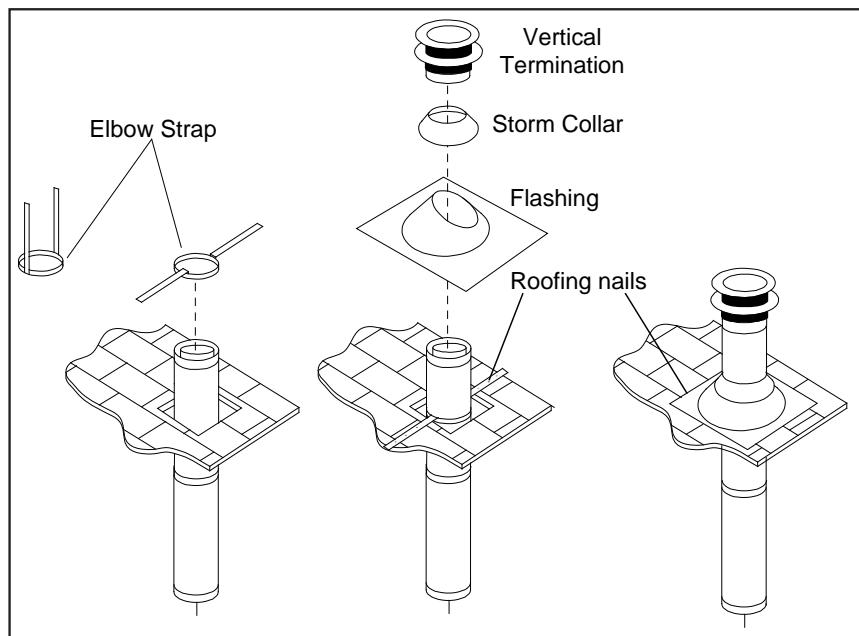
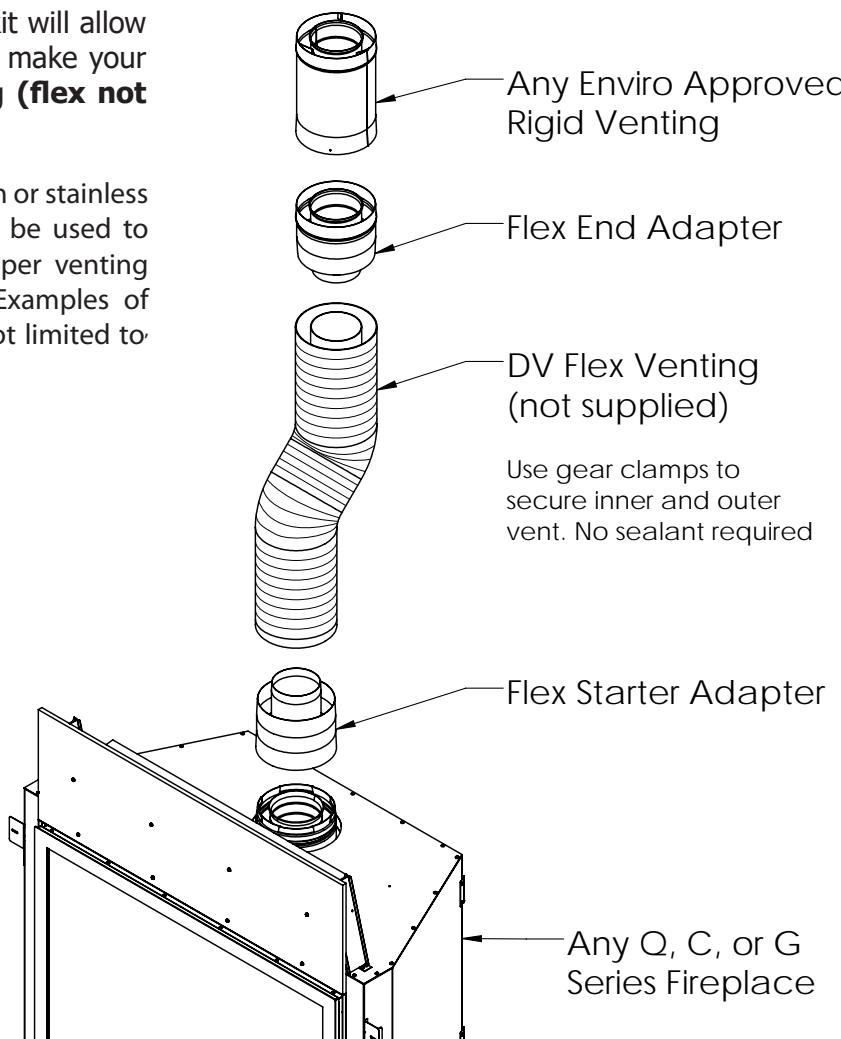

Figure 39. Vertical Vent Termination
Figure 42. Flex Adapter Kit Install
Step 3. To install the Round Support Box/Wall Thimble in a flat ceiling, cut a **10" (25.4 cm)** square hole in the ceiling, centered in the hole drilled in Step 2. Frame the hole as shown in Figure 39.
Step 6. Once the pipe sections have been joined, and run up through the hole in the roof, slip an elbow strap over the exposed sections, bend the support straps outwards, and push the elbow strap down to the roof level, as shown in Figure 39. Tighten the clamp around the pipe section. Use a level to make sure the pipe is truly vertical. With roofing nails, secure the support straps to the roof. Seal the nail holes heads with non-hardening mastic. Trim the excess length of the support straps that extend out beyond the edge of the flashing.
Step 8. Continue to add pipe sections until the height of the vent cap meets the minimum code requirements. Refer to Figure 39 and Table 7. Note that for steep roof pitches, the vent height must be increased. In high wind conditions, nearby trees, adjoining roof lines, steep pitched roofs, and other similar factors can result in poor draft, or down drafting. In these cases, increasing the vent height may solve the problem.
Table 8: Minimum 'H' for Figure 39.
- (2) When ever possible, use 45° degree elbows instead of 90° degree elbows. The 45° degree elbow offers less restriction to the flow of flue gases and intake air.
- (3) For multi story installations; a ceiling firestop is required at the second floor, and any subsequent floors (see Figure 42). The opening should be framed to **10" (254 mm) x 10" (254 mm)** inside dimensions, in the same manner as shown in Figure 39.